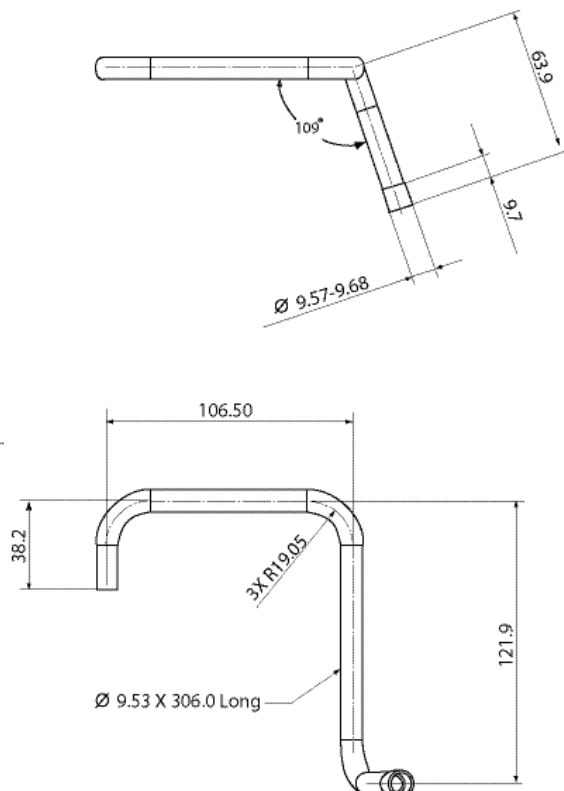
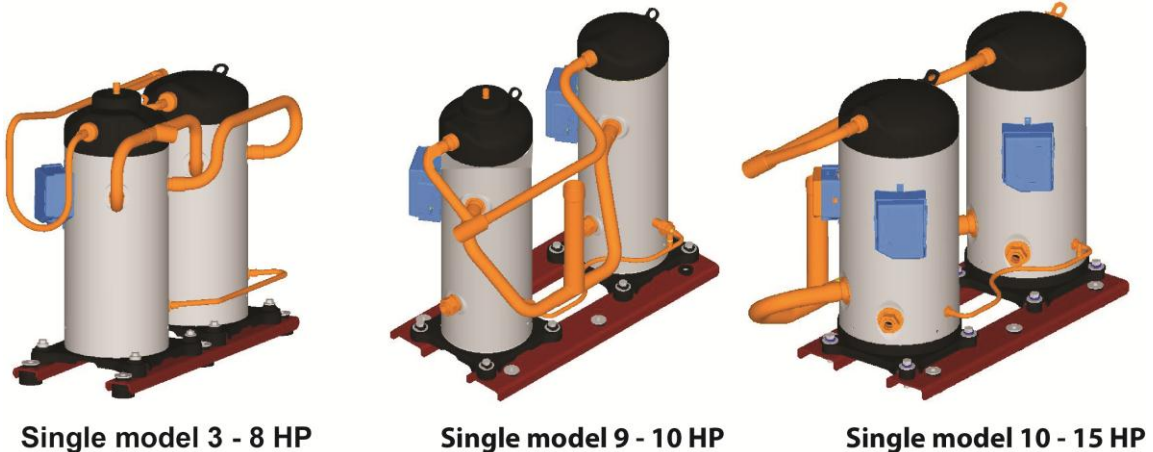

Figure 17: Control valve pipe connection
Figure 18: Tandem configurations for compressor combinations with 3 to 15 hp models (ZR and ZP ranges)
- The valve operation is directional. See **Figures 18 & 19** below for inlet and outlet locations.
The tube from the solenoid to the suction (**Figure 17**) should be as short as possible (less than 7.5 cm). Dimensions for a typical tube going from the top of the compressor are shown in **Figures 18 & 19**.